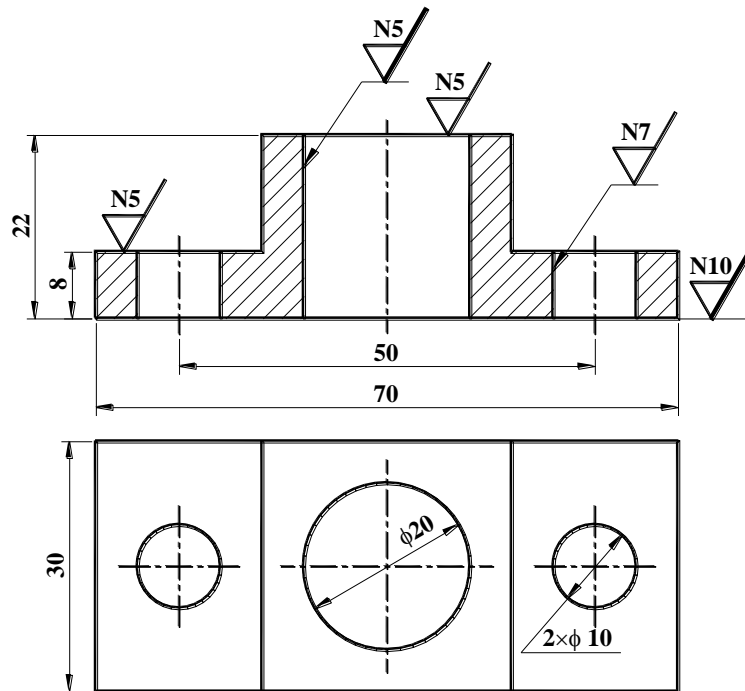

FIGURE T5.6
6. 5. DRAW THE ROUGHNESS GRADE SYMBOLS FOR THE SURFACES OF AN OBJECT SHOWN IN *FIGURE T5.6*.